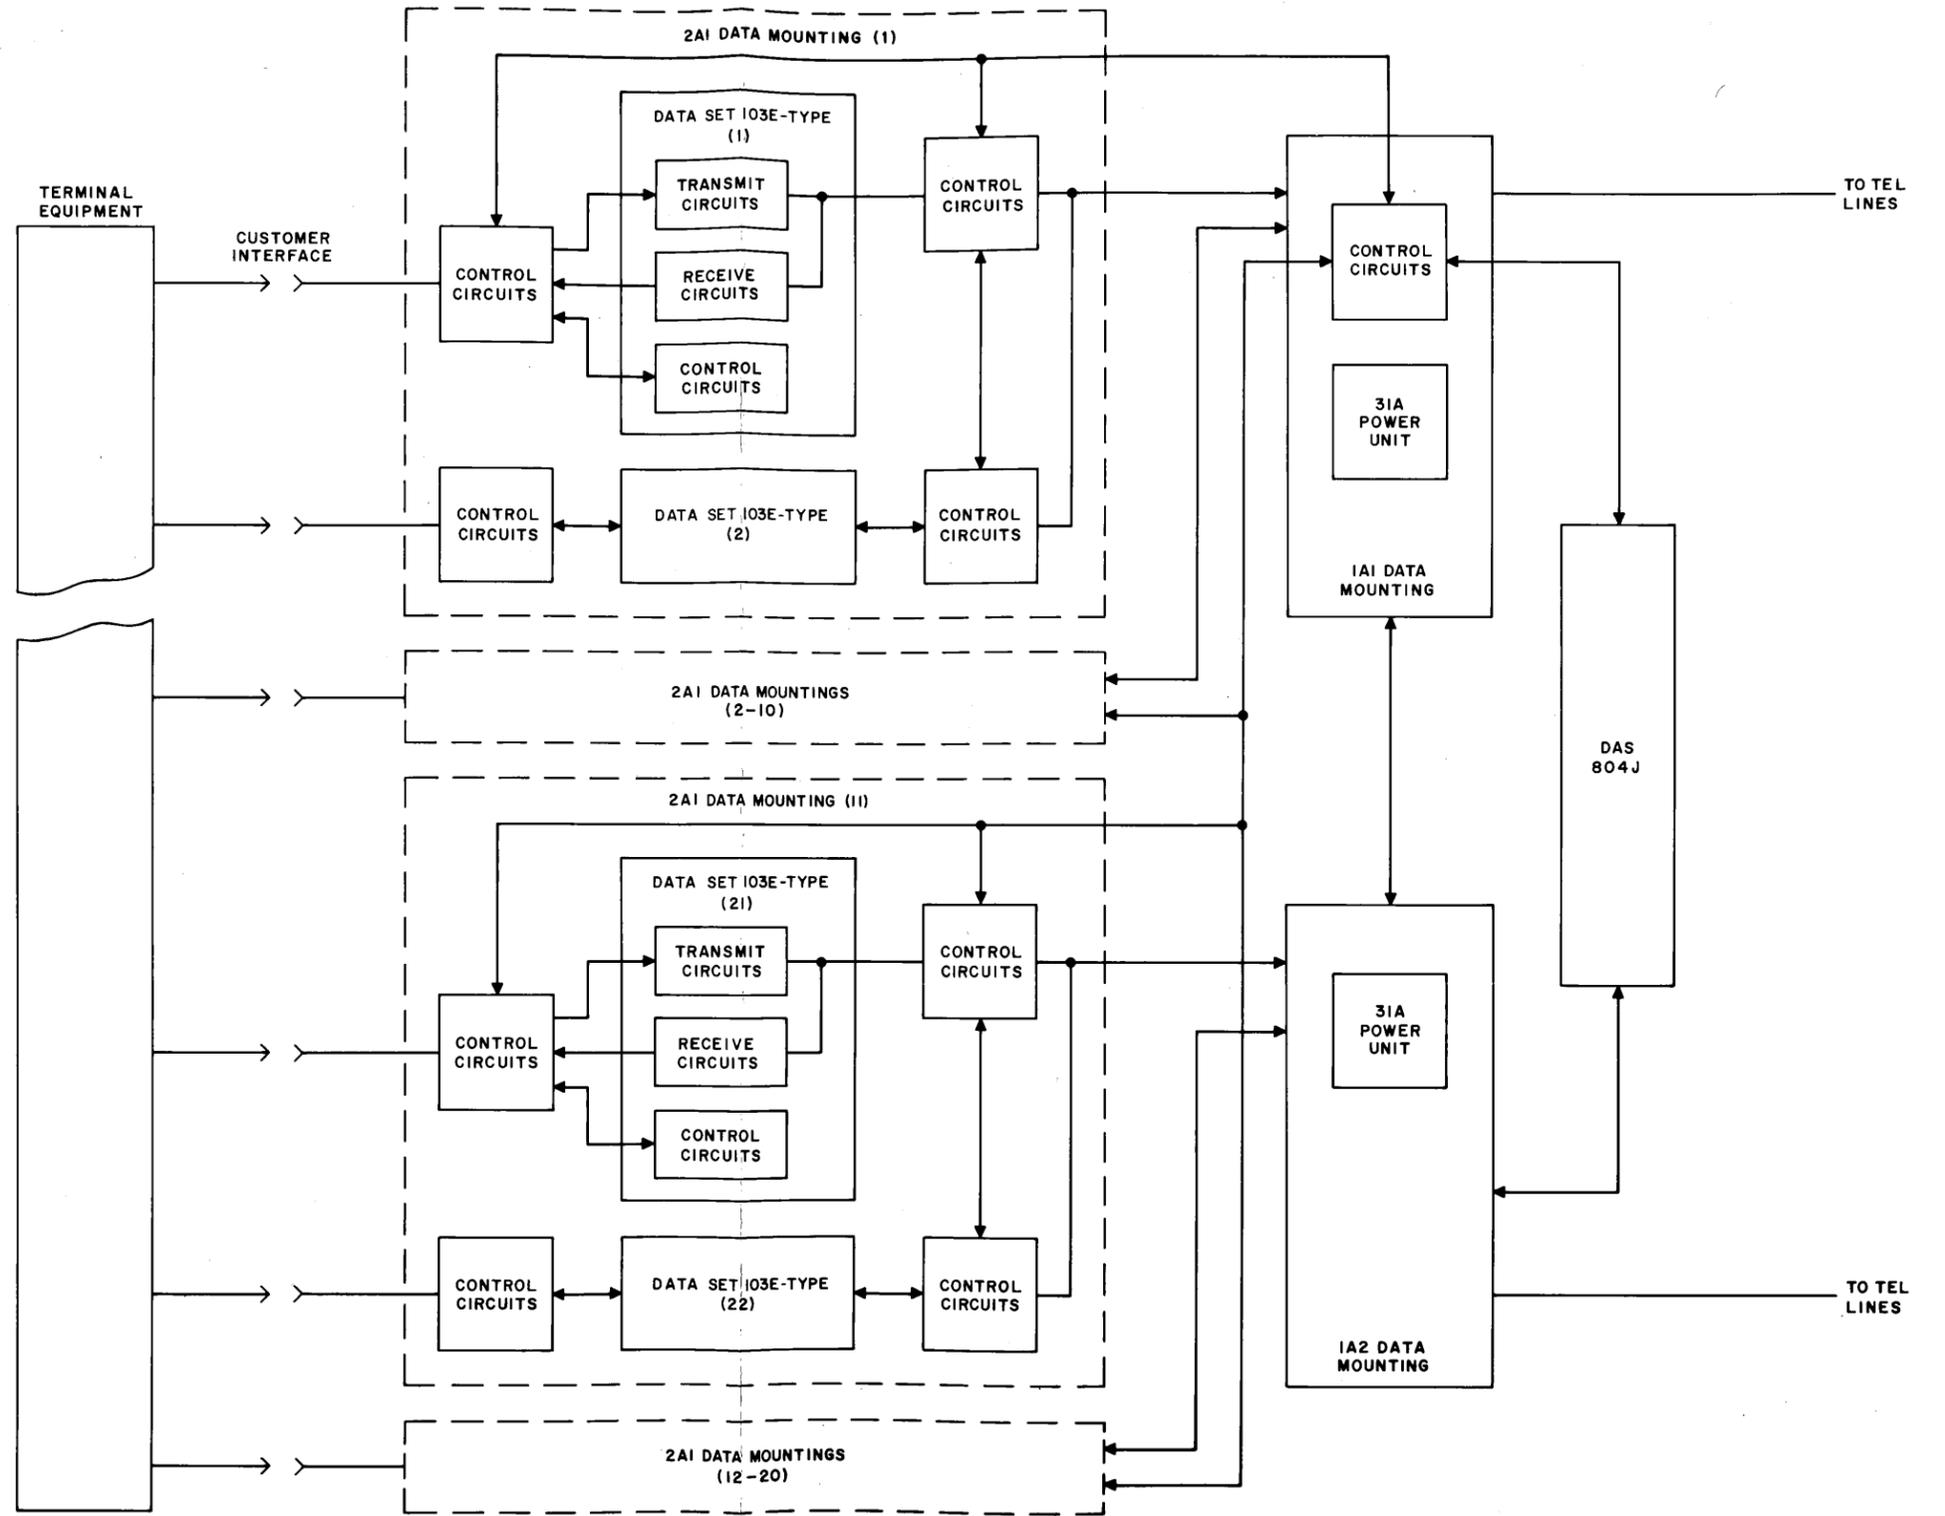

Fig. 10—Data Set 103E-Type Data Station—Functional Block Diagram
3.01 A functional description of the Data Set 103E Data Station (Fig. 10) is given in the following text to provide information on the operation of the data station and its major components.